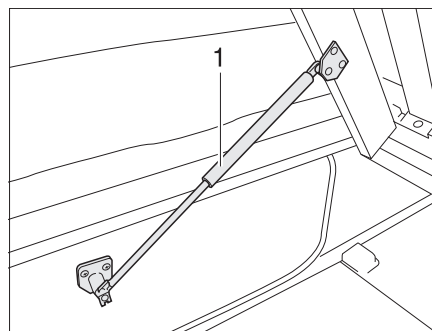

Fig. 178 Fixed bed
■ Lift slatted frame. The gas-pressure springs (Fig. 178,1) hold the slatted frame open.